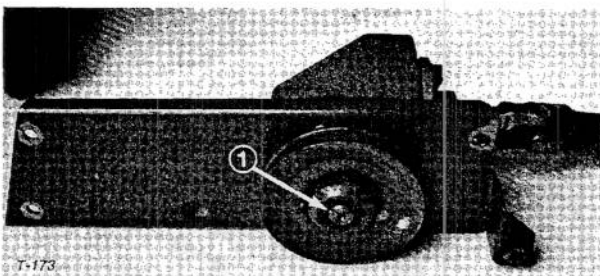

Figure 112
5. Remove set screws from taper lock bushing (Fig. 112). Install one set screw into hole that is threaded on side of taper lock (Fig. 112). Tighten set screw until taper lock is loose on inside of pulley hub.
2. Insert woodruff key into keyway in gear box shaft. Slide pulley w/taper lock onto gear box shaft and key (Fig. 112).
5. Check alignment of gear box pulley with spindle pulley. Loosen and relocate taper lock to adjust, if necessary (Fig. 112).